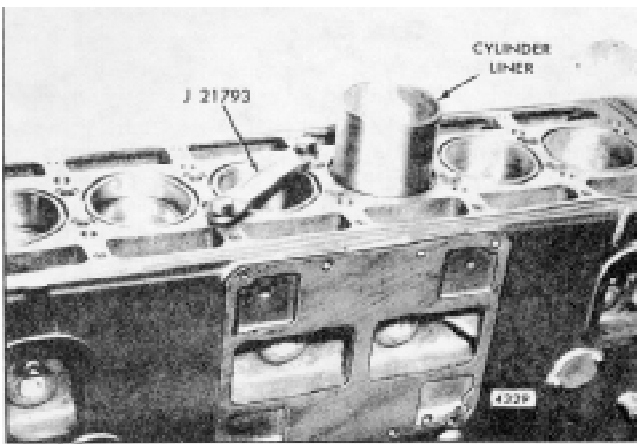

Fig. 3 - Cylinder Liner Hold-Down Clamp
2. Install a cylinder liner hold-down clamp (Fig. 3).